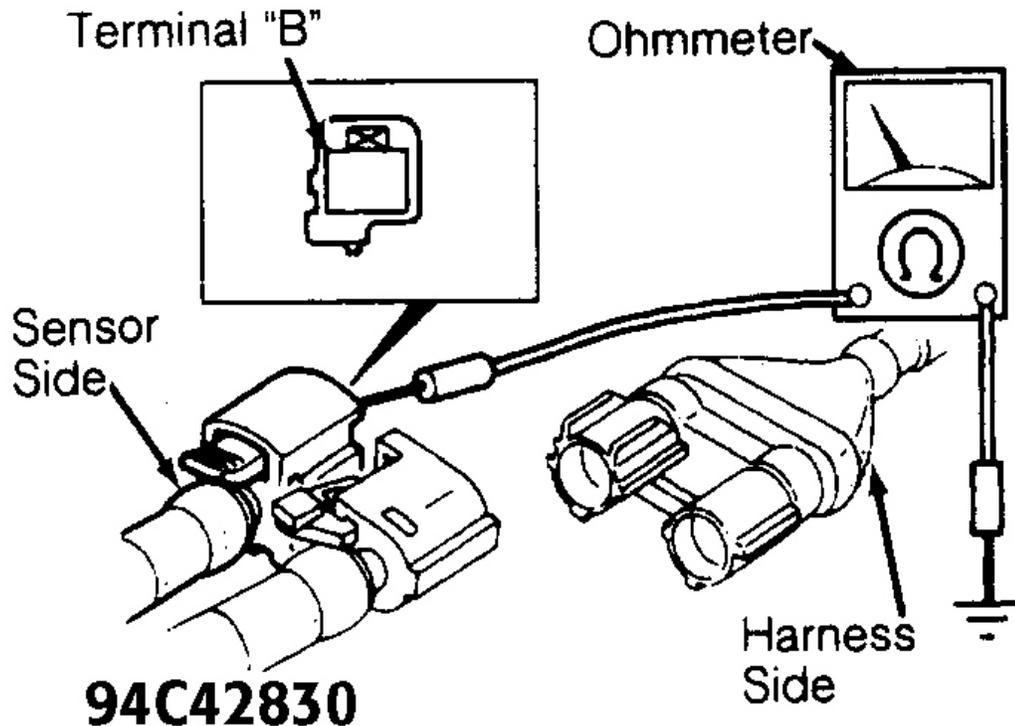

Fig. 13: Identifying D-Sensor Terminal "B"
2. Disconnect right D-sensor connector. Using a DVOM, check for continuity between right D-sensor connector (sensor side) terminal "B" and ground. See **Fig. 13** . If continuity is present, replace wiring harness. Perform **TESTING - SYSTEM OPERATION CHECK** . If continuity is not present, replace right D-sensor. Perform **TESTING - SYSTEM OPERATION CHECK** .
2. Disconnect center D-sensor connector. Using a DVOM, check for continuity between center D-sensor connector (sensor side) terminal "B" and ground. See Fig. 13 . If continuity is present, replace wiring harness. Perform TESTING - SYSTEM OPERATION CHECK . If continuity is not present, replace center D-sensor. Perform TESTING - SYSTEM OPERATION CHECK .
2. Disconnect left D-sensor connector. Using a DVOM, check for continuity between left D-sensor connector (sensor side) terminal "B" and ground. See **Fig. 13** . If continuity is present, replace wiring harness. Perform **TESTING - SYSTEM OPERATION CHECK** . If continuity is not present, replace left D-sensor. Perform **TESTING - SYSTEM OPERATION CHECK** .